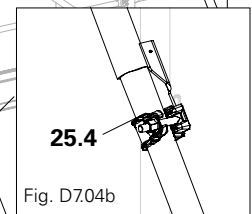
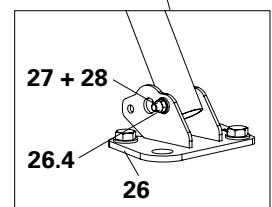

Fig. D7.04b
Fig. D7.04c
3. Loosen the bottom coupling (25.4) and extend the multi brace until the required support angle of $\alpha \leq 60^\circ$ has been reached. Tighten the bottom coupling. (Fig. D7.04b)
4. Fit the inner tube (25.2) onto the rear hole (26.4) of the base plate by means of bolts (27) and nuts (28).
5. Fix Base Plate EWB (26) to the substrate. (Fig. D7.04c)